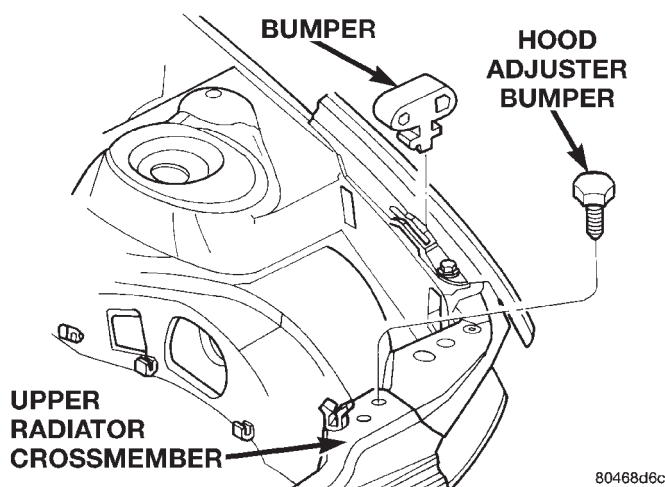

Fig. 4 Hood Adjuster Bumper
- (1) Release hood latch and open hood.
- (2) Rotate hood slam bumper counterclockwise.
- (3) Separate hood slam bumper from radiator closure panel (Fig. 4).